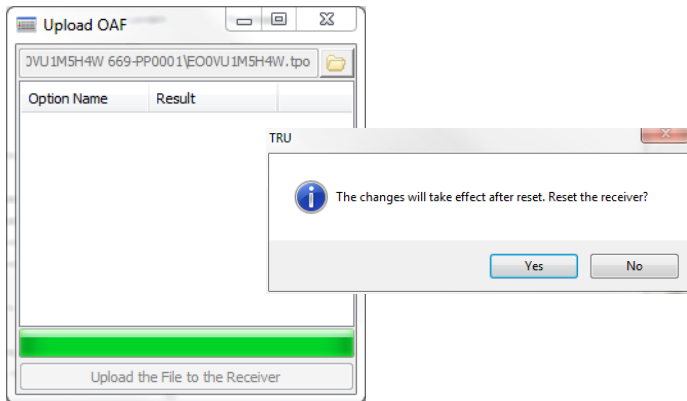

Figure 5-8. Reset the Receiver Confirmation Dialog Box
5. Press **Upload the File to the Receiver** to start loading the file. If an OAF file is uploaded to the receiver, SRU will display a **confirmation** dialog box to reset the receiver and put new authorization options into operation (Figure 5-8).
6. Press **Yes** on the **confirmation** dialog box (Figure 5-8).